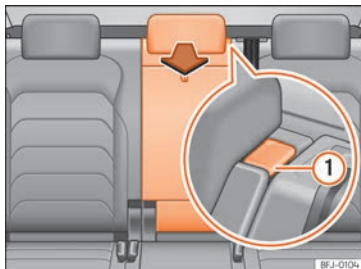

Fig. 134 Backrest of the rear seat: opening the trapdoor for long loads
- Press the unlocking button »» **Fig. 134** ① and fold the tailboard forward »» **⚠**.